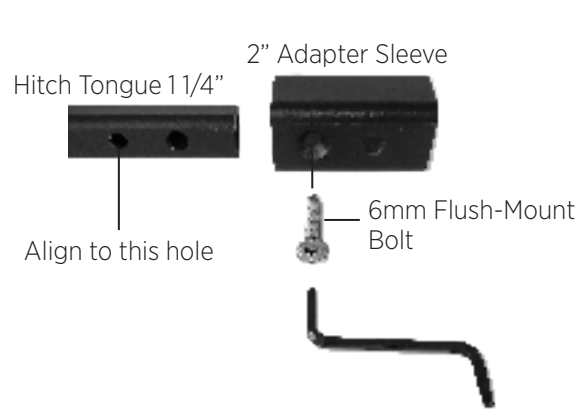

Fig. 9
1. Align and install 2" length x 6mm hex head Flush-Mount Bolt through 2" Adapter Sleeve into smaller/second hole from end of the Hitch Tongue. Tighten firmly (**Figs. 9 & 10**).